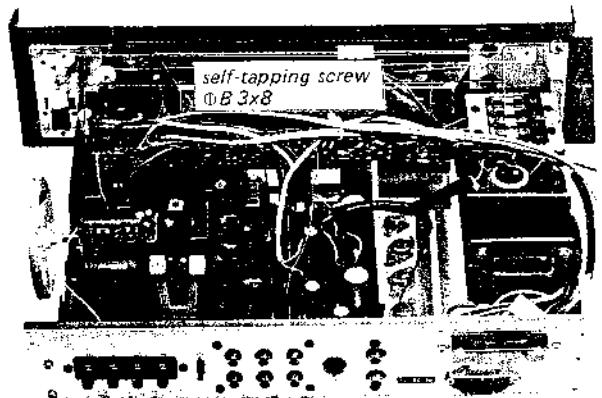

Fig. 2-4. Front panel removal
3. Remove the four self-tapping screws securing the front panel to the front subchassis as shown in Fig. 2-4.